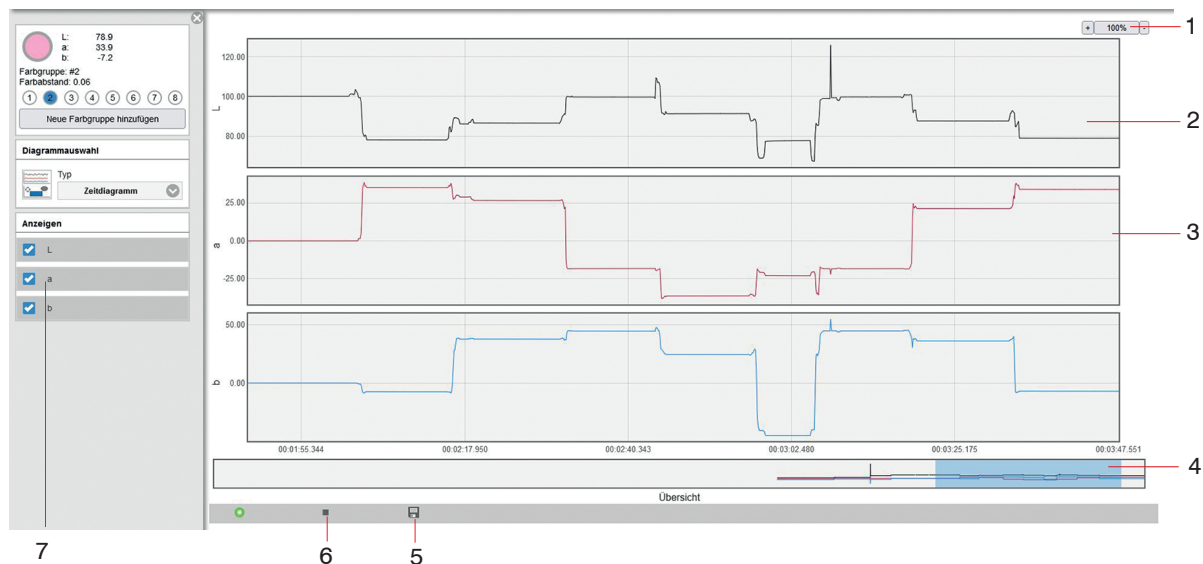

Fig. 33 Measurement chart and timeline menu
The Timeline, see Fig. 33, shows the chronological sequence of the currently tested color in the selected color space.
- 5 With the color inspection, you can record the color values from the last 10 min. and save them to a CSV file (time column and measured value column) with the Save, see Fig. 33 button.